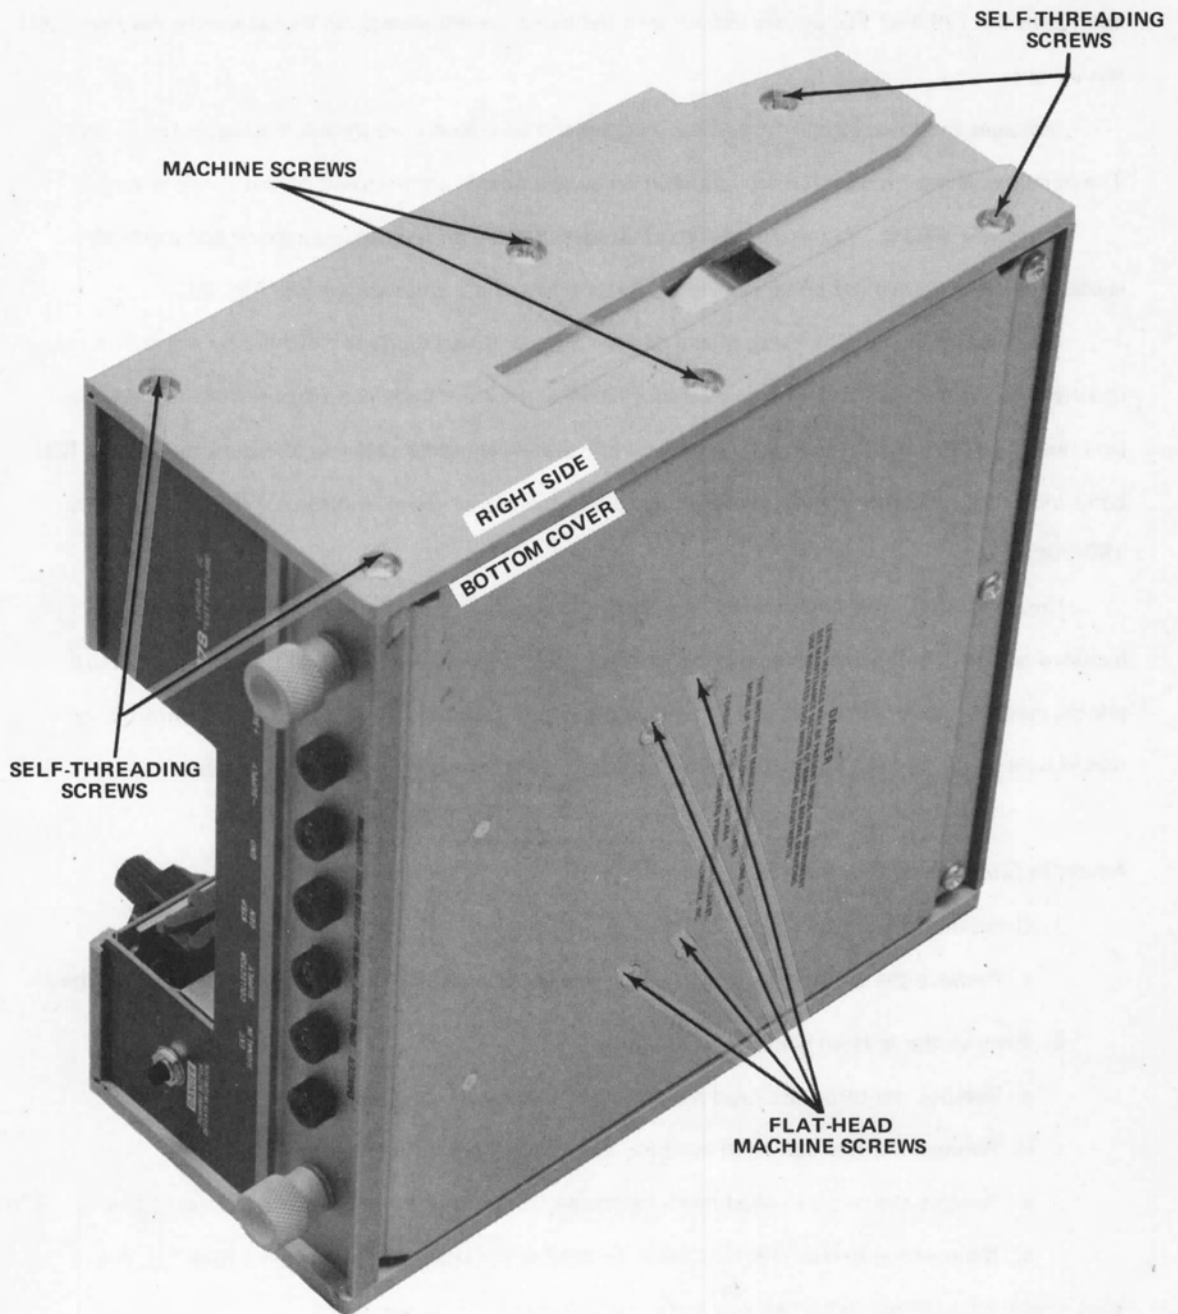

Fig. 4-2. Right-side and bottom panel of the 178.
- a. Remove the three pan-head machine screws from the bottom panel (see Fig. 4-2).
- e. Remove the three pan-head machine screws (see Fig. 4-2) from the bottom panel.